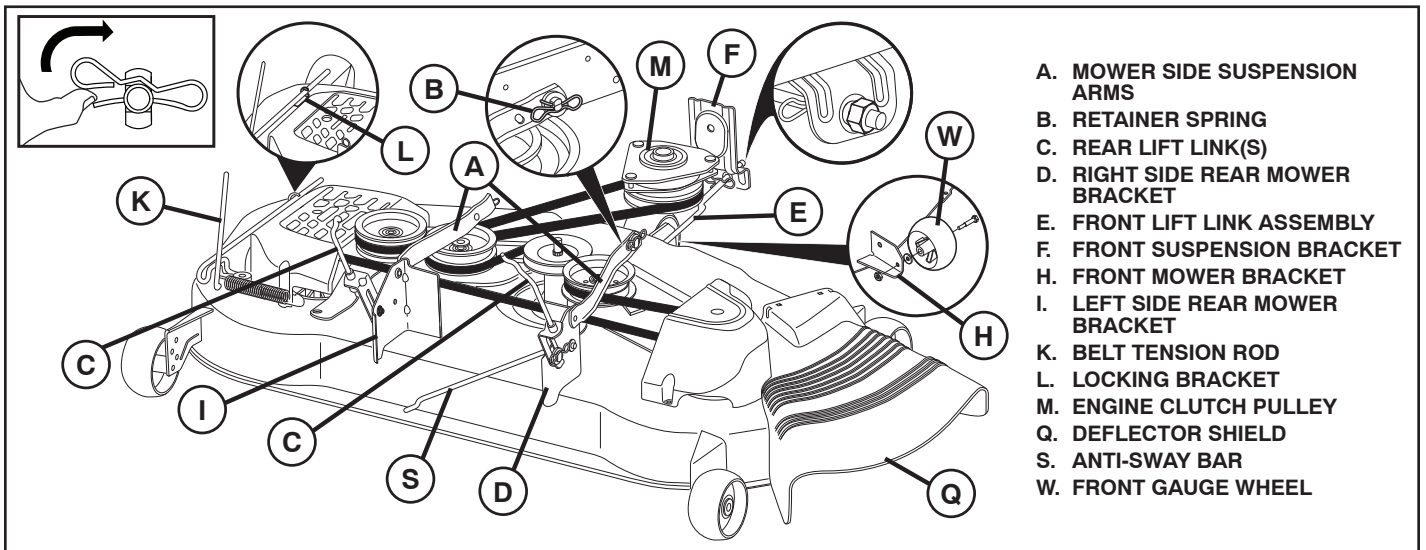

Fig. 9
9 INSTALL BELT ON ENGINE CLUTCH PULLEY (M) (See Fig. 9 & 15)
- Disengage belt tension rod (K) from locking bracket (L).
- Install belt onto engine clutch pulley (M).